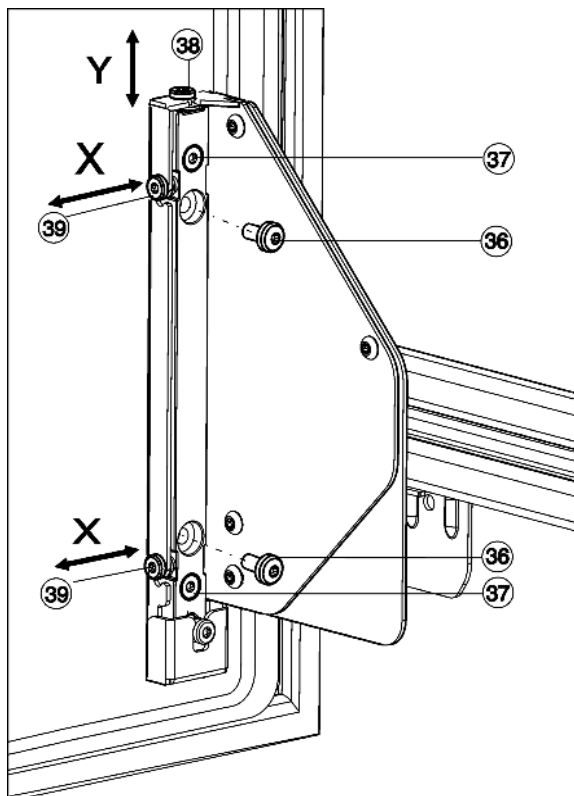

Fig. 28
- ▶ Fully screw out the screws *Fig. 28 (36)*.
- ▷ Dispose of the screws *Fig. 28 (36)* as they will no longer be needed.
- ▶ Only loosen the screws *Fig. 28 (37)* with 1 to 2 turns.
- ▶ Turn the adjusting screw (38). In a clockwise direction: the door moves max. 4 mm upwards. In an anticlockwise direction: the door moves max. 2 mm downwards.
- ▶ Retighten all screws *Fig. 28 (37)*.
- ▶ If the screws *Fig. 28 (36)* are still present, unscrew them fully.
- ▶ Adjust the adjusting screws *Fig. 28 (39)* according to the desired lateral adjustment direction.
- ▶ Retighten the screws *Fig. 28 (37)* after the lateral adjustment is complete.